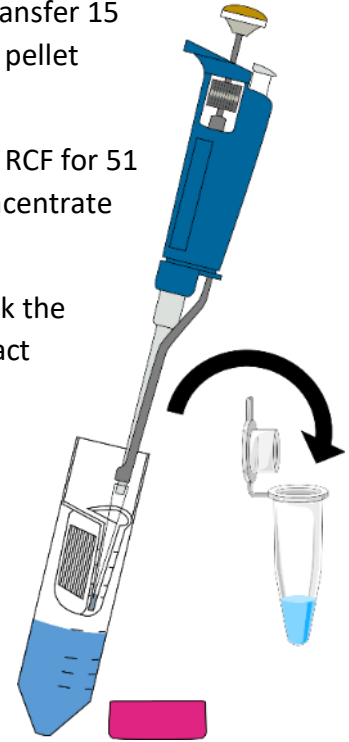

Figure 8. Transferring wastewater concentrate from the Amicon unit
- K. With a new tip, transfer 200  $\mu$ L of prepared concentrated wastewater to a microcentrifuge tube containing nuclease-free water (Figure 8.). Mix by pipetting the mixture up and down ten times.